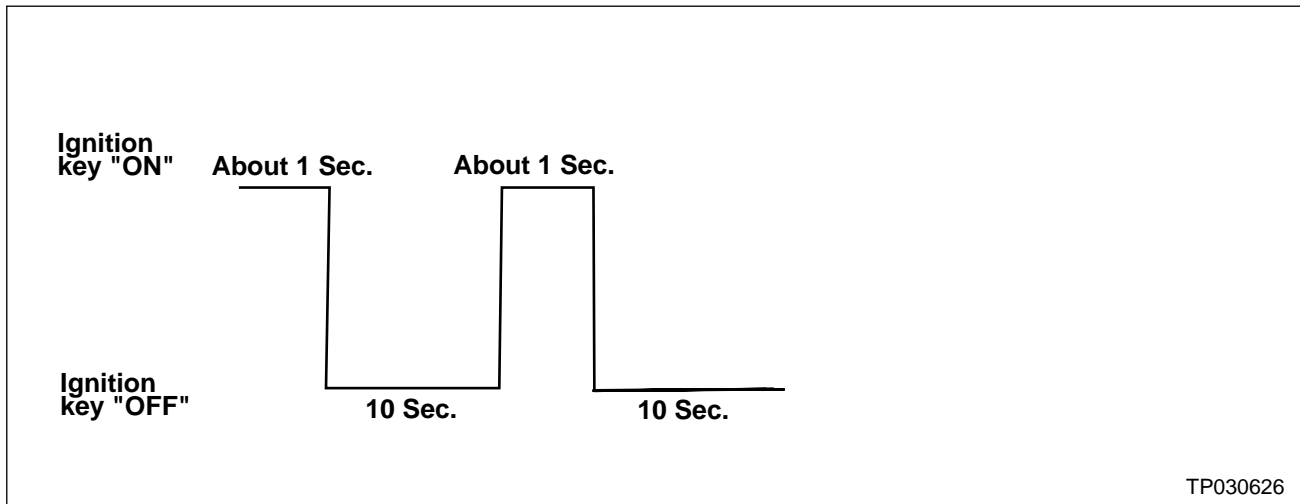

Figure 20
30. **Wait more than 10 seconds, then turn the ignition switch "ON" for 1 second. Then, turn the ignition switch "OFF" again for 10 seconds (see Figure 20).**